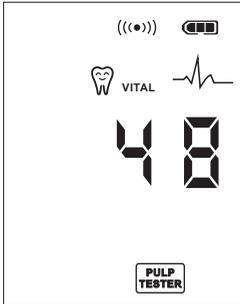

Fig.22
- 1) The reading corresponding to the normal stimulus is 1-99. When the stimulus stopped within 1-99, on the screen, a smile tooth and green “VITAL” appear (Fig.22).